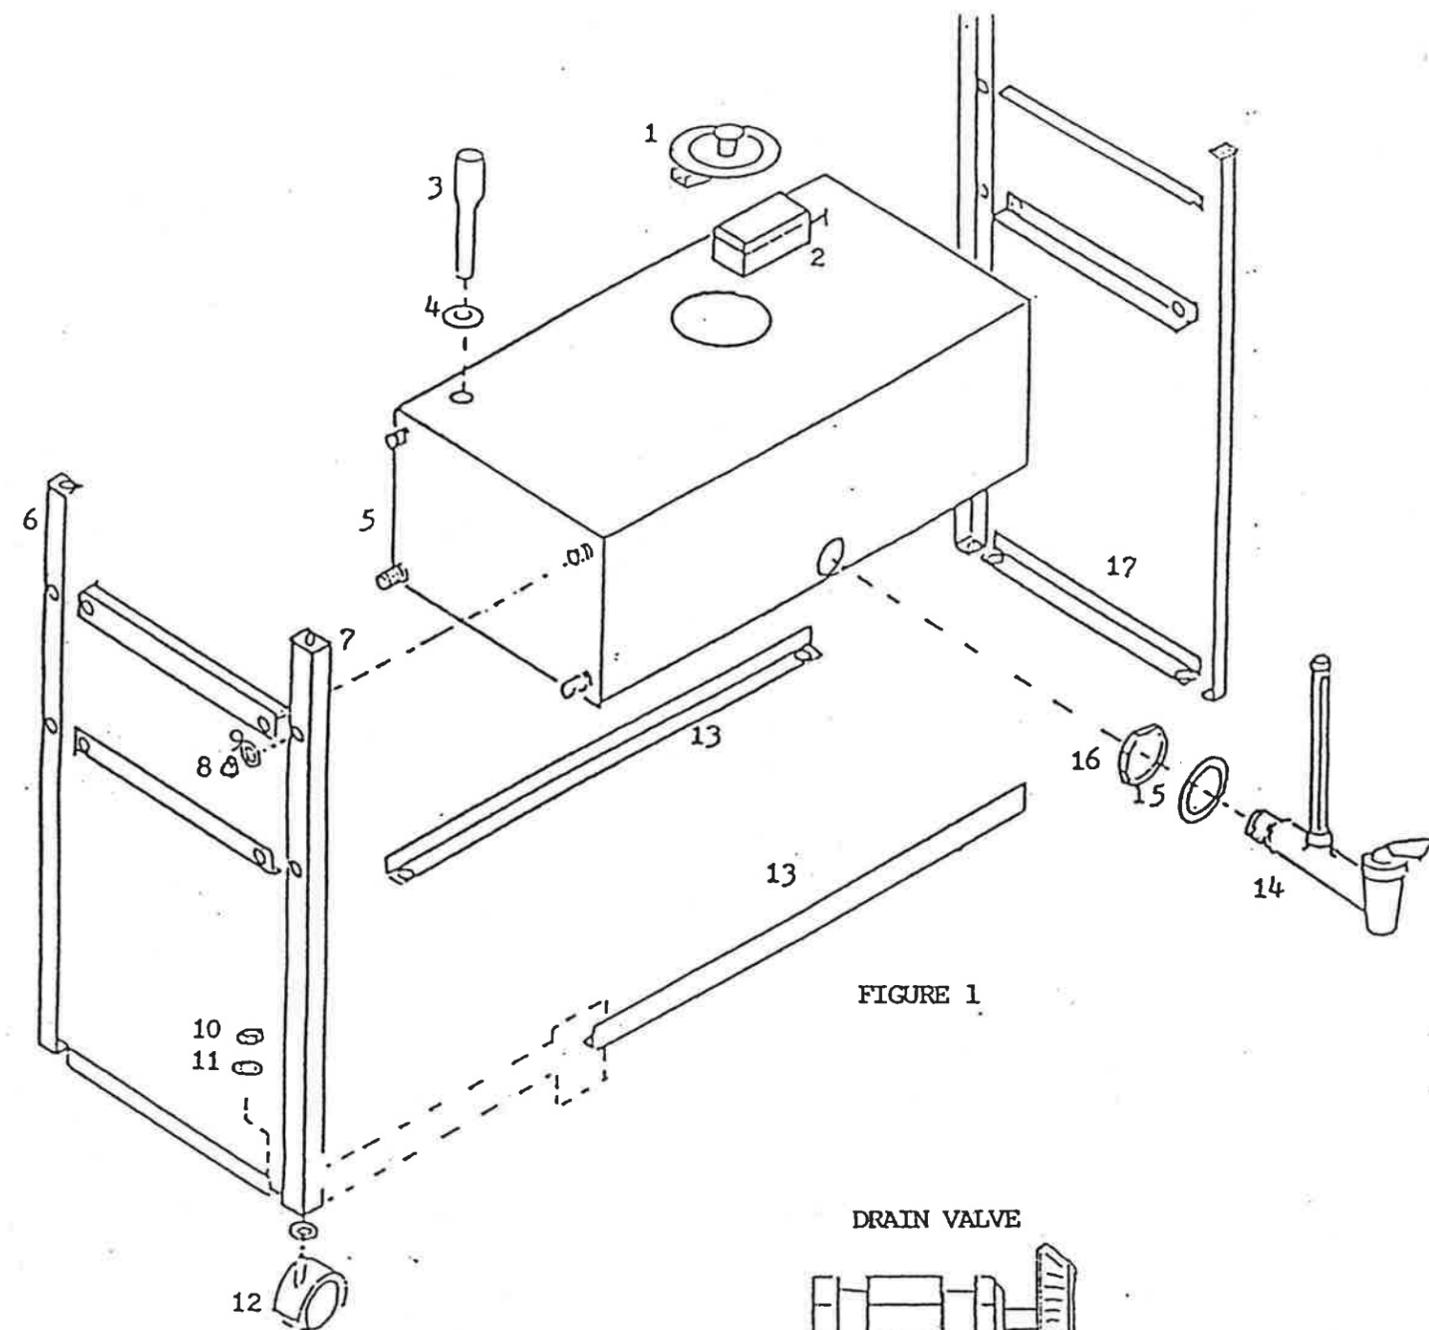

FIGURE 1
3. Select two pieces of side trim and place them on the storage tank left side bolts so the trim covers the top and bottom edges of the storage tank as shown in Figure 1.
11. Select the faucet, washer, and poly nut. Place the washer on threads of the faucet and insert faucet threads through the hole near the bottom front of the storage tank as shown in Figure 1.